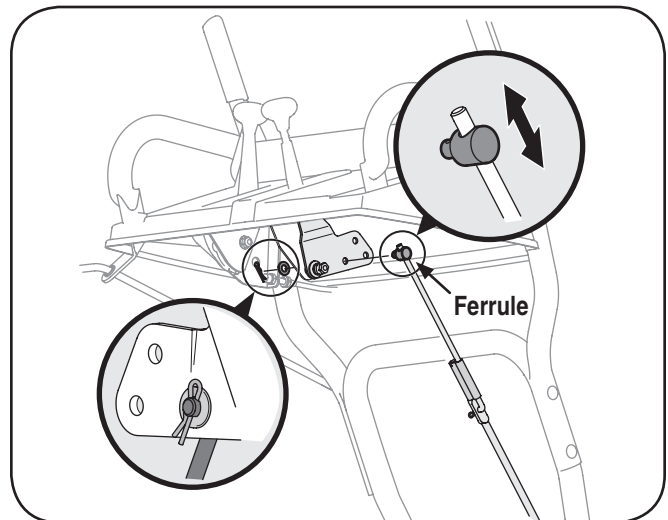

Figure 6-8
If the full range of speeds (forward and reverse) cannot be achieved, refer to Figure 6-8 and adjust the speed selector rod as follows:
1. Looking underneath the handle panel, note which of the three holes in the speed selector lever the ferrule is inserted into. Also note the direction of insertion. Then remove the internal cotter pin and flat washer from the ferrule and withdraw the ferrule from the speed selector lever. See Figure 6-8.
2. Place speed selector lever in sixth (6) position or fastest forward speed.
4. As necessary, rotate the ferrule up or down the speed selector rod until the ferrule lines up with the hole from which it was earlier removed. See Figure 6-8.